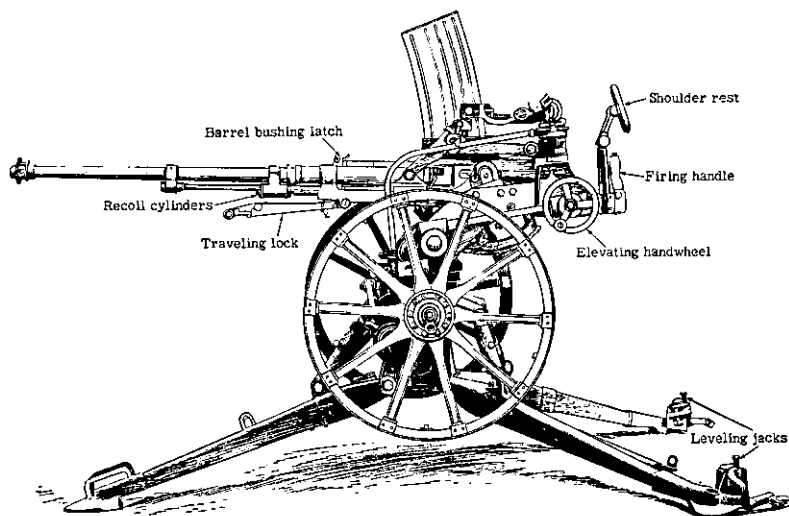

Figure 112.—Model 98 (1938) 20-mm antiaircraft-antitank machine cannon (left side).
(1) Its general appearance, which is different from any other Japanese field piece (see fig. 112).
(2) The front outrigger.
(3) The barrel traveling lock.
(4) The marking 九八 式 which is on the top of the receiver. (This marking, which is read *Kyuhachi Shiki* from top to bottom, means "98 model.")